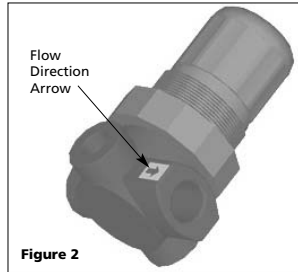

Figure 2
1. Locate the air flow direction arrow (See Figure 2, detail). This arrow shows the direction of the air flow, i.e., it points to the outlet.
5. Verify the arrow points to the outlet. (See Figure 2.)